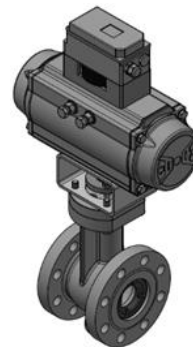

Fig. 1: Type 82.7-02/AT (BR31a)
- pneumatic piston actuator Type AT / BR31a → control valve Type 82.7-02/AT and 82.7-02/BR31a (Fig. 1)